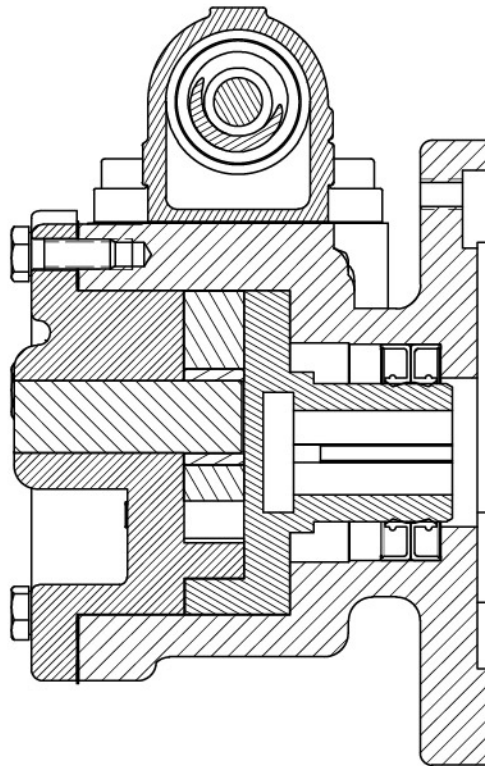

Figure 13-1: VV75H, VV75HJ, & VV75HL Lip Seal Installation
1. Inspect stuffing box for debris or damage. Clean stuffing box and shaft (11) thoroughly to avoid any sealing issues, if necessary, replace damaged or worn parts. It is recommended that lip seals (10) be replaced each time pump is rebuilt.
3. Insert the lip seals (10) into the stuffing box, from the wet end of the pump, one at a time with the lip seal springs (open ends) away from each other, reference Figure 13-1. Use an arbor press with a $2\frac{3}{16}$ inch arbor to press in the lip seals (10) until completely inserted.